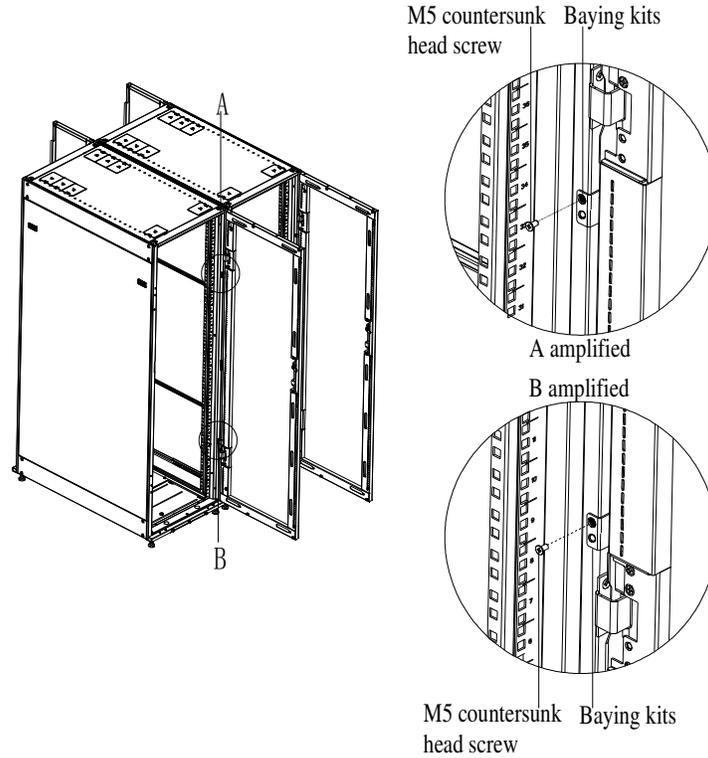

Figure 3-23 Installing the Baying Kits
1. Align the two racks, remove the two baying kits (two on the front and rear) and two M5 countersunk head screws from the accessory package, and secure the rack on the frame of rack 1 using the M5 countersunk head screw, as shown in Figure 3-23.